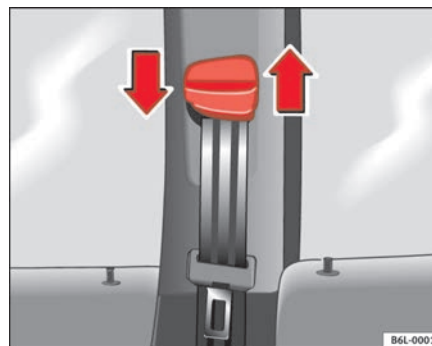

Fig. 16 Location of the belt height adjuster
- Press the upper part of the shoulder belt guide and hold it in this position ⇒ fig. 16.